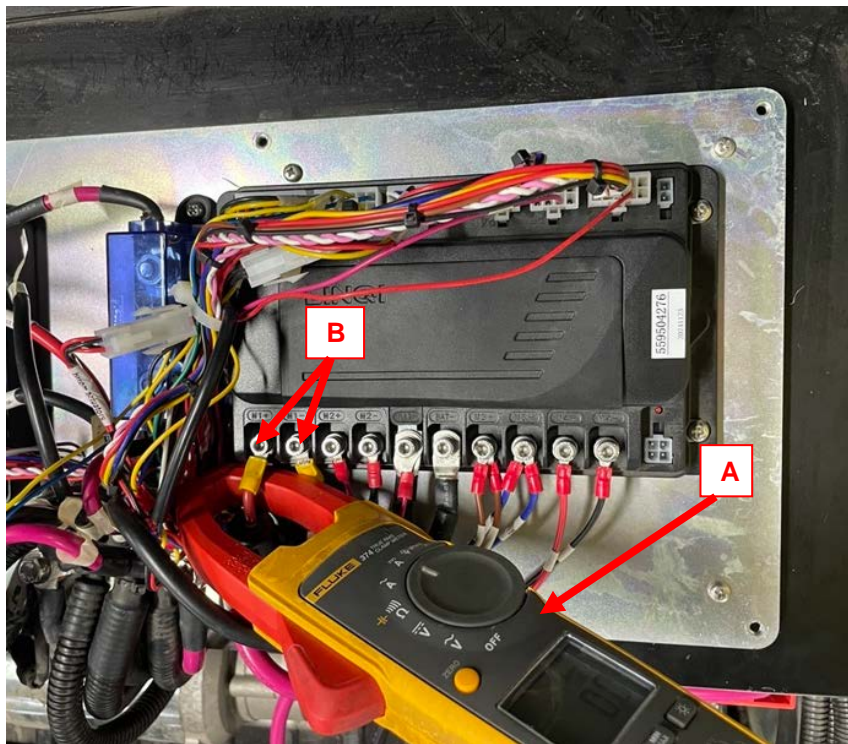

Figure 59
2. Apply amp clamp (A, Figure 59) to one of the main broom motor wires (B, Figure 59).